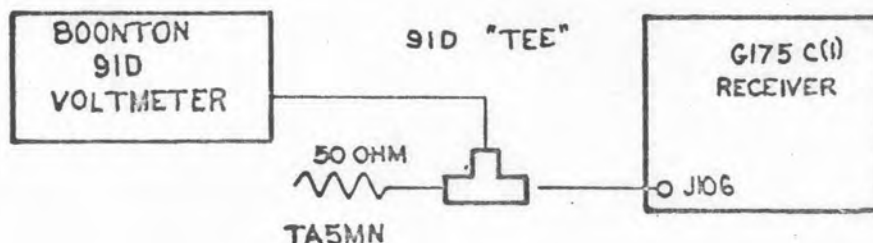

Figure 5-23
- a. Connect equipment as shown in figure 5-23.